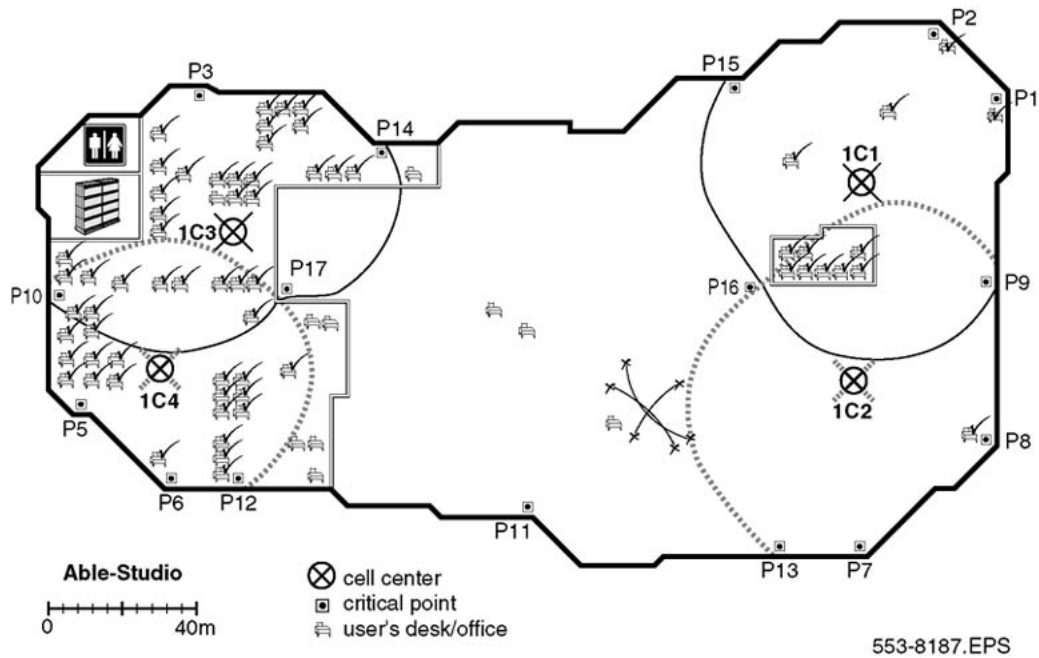

Figure 26: Contours formed by critical points P11, P13, and P16
- contours in Figure 26: Contours formed by critical points P11, P13, and P16 on page 56
Figure 26: Contours formed by critical points P11, P13, and P16 on page 56 shows a floor plan with complete radio coverage. Cell boundary 1C7 completes the floor plan.